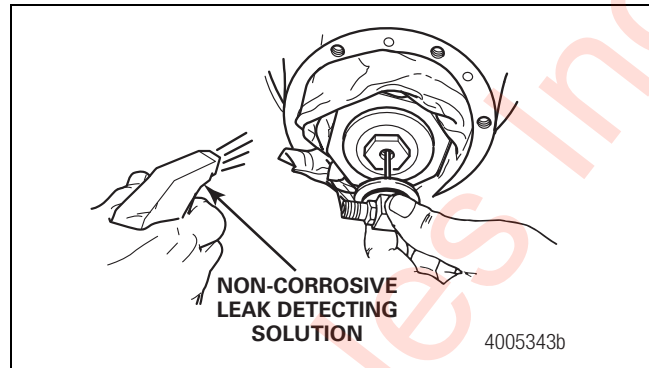

Figure 3.34
- G. Ensure to hold the tee straight into the axle. Spray the axle press plug area with a non-corrosive leak detecting solution to check for leaks. Figure 3.34.